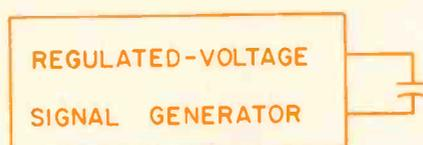

Fig. 2 — A capacitor is connected to the output of a regulated-voltage signal generator.
When a capacitor is connected to a regulated-voltage signal generator (Fig. 2), the current (I) flowing through the capacitor leads is dependent on the capacitor's reactance ( $X_C$ ),